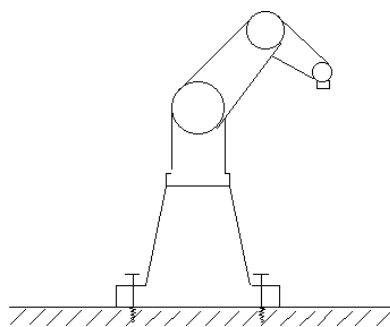

Figure 4.7
4.4.4. MOUNTING FLOOR QUALITY (figure 4.7)